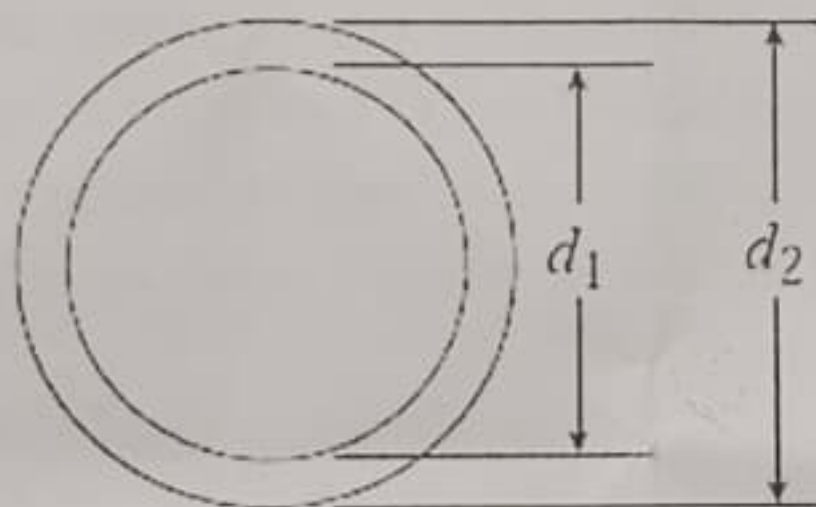

Figure 8
- 10.a) A steel pipe column ($E = 210 \text{ GPa}$) with length $L = 1.2 \text{ m}$ has inside and outside diameters $d_1 = 36 \text{ mm}$, and $d_2 = 40 \text{ mm}$, respectively (see figure 8). The column is supported only at the ends and may buckle in any direction. Calculate the critical load P_{cr} for the following end conditions: (1) pinned-pinned, (2) fixed-free, (3) fixed pinned, and (4) fixed-fixed.